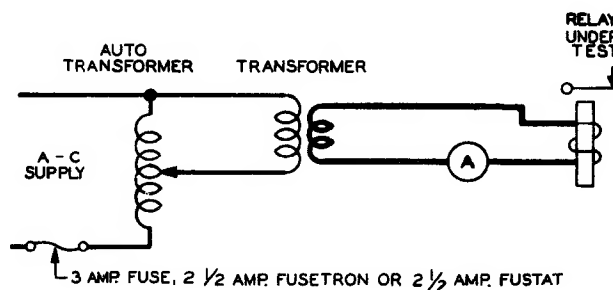

Fig. 12 - Test Connections Where Relay Is Rated in Amperes AC
(6) Where electrical requirements are expressed in amperes alternating current, an autotransformer should be used. Where current in excess of the output rating of the autotransformer is required, a transformer should be added as shown in Fig. 12. If the No. 352AL transformer is used, terminals 1 and 3 are connected to the relay and terminals 4 and 210, 230, or 250, depending on line voltage, are connected to the output of the autotransformer. With the above arrangement, current up to 60 amperes at 2.25 volts alternating current can be obtained by manipulation of the autotransformer. For test purposes, the current should be gradually increased to the specified operate value and gradually reduced to the specified release value.
(7) Operate, nonoperate, and release adjustments may be made by changing contact pressures, but in no case should the pressure be less than the specified minimum. Changes in these values may also be made by changing the air gap between the armature and the pole face as outlined in 3.06.
(8) If the armature moves toward the core as the electrical operate current is applied, but fails to pull all the way up to the core, it is an indication of excessive contact pressure, a bind in the pivot structure, an obstruction in armature gap, or excessive armature retractile spring tension. Reduce the contact pressure as outlined in 3.05, exercising care not to change the contact sequence. If the armature retractile spring tension is excessive, reduce the tension as outlined in 3.05(3).
(9) If the relay fails to meet its nonoperate requirement, increase the armature air gap as covered in 3.06, and if the relay is equipped with an armature retractile spring, increase the tension as outlined in 3.05(3). If a readjustment of the contact pressure is necessary, proceed as covered in 3.05.